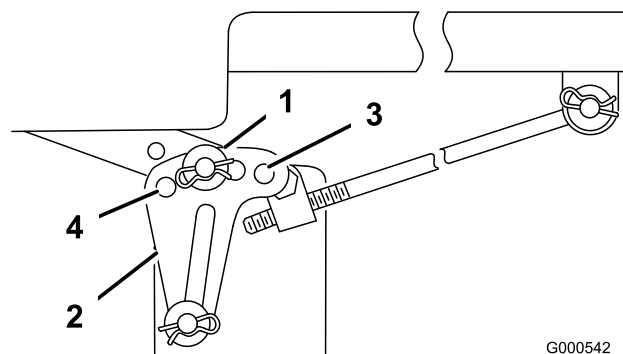
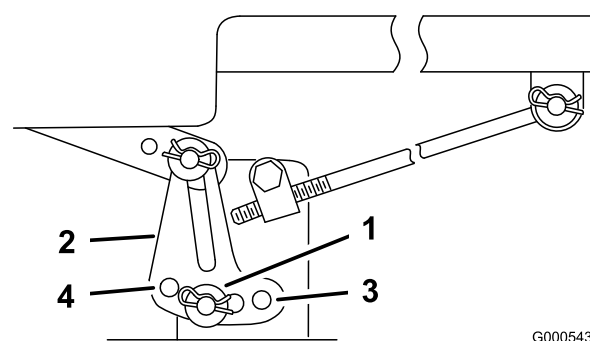

Figure 43
Figure 44
6. Remove the hairpin cotter and washer from the leveling bracket (Figure 43).
7. To level the blade(s), reposition the leveling bracket(s) in a different hole and install the washer and hairpin cotter. (Figure 43 and Figure 44). A front hole lowers the blade height and a rear hole raises its height. Adjust both sides as required.